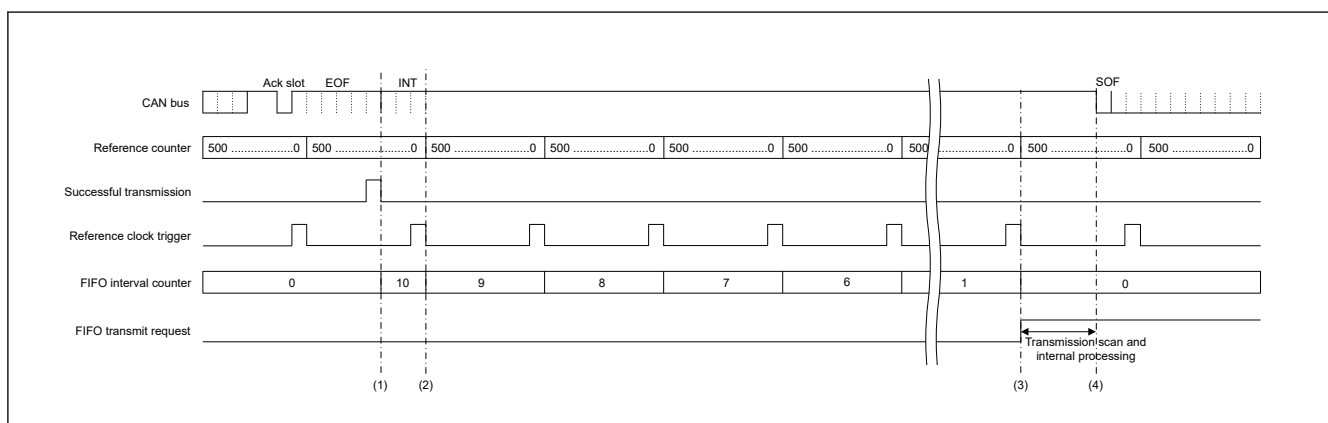

Figure 42.46 Example for interval processing time
The next message is sent at earliest after this interval time. Figure 42.46 shows an example timing of the internal processing.
The configuration for the timing in Figure 42.46 is as follows:
- Reference clock from the settings in Figure 42.46 = 10 μ s
As shown in Figure 42.46, it is not guaranteed that the minimum interval is always equal to the configured value. If a minimum time must never be breached, configure CFDCFCC.CFITT to the required minimum value plus 1.